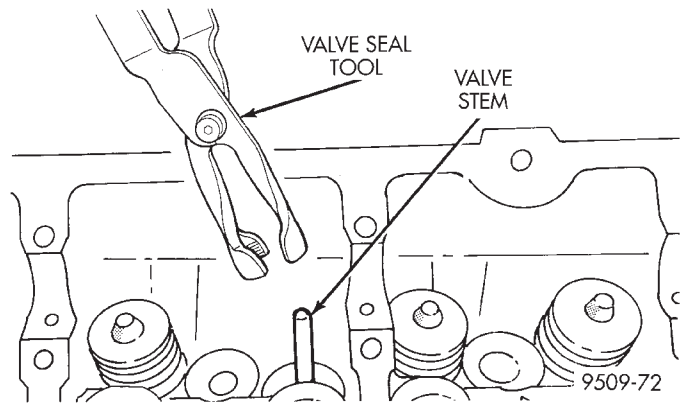

Fig. 38 Valve Stem Oil Seal Tool
- (5) Remove valve spring.
- (6) Remove valve stem seal by using a valve stem seal tool (Fig. 38).